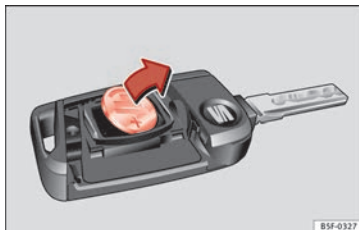

Fig. 133 Vehicle key: removing the battery.
- Extract the battery from the compartment using a suitable thin object **Fig. 133**.
- Place the new battery in the compartment as shown **Fig. 133**, pressing in the opposite direction to that shown by the arrow **②**.